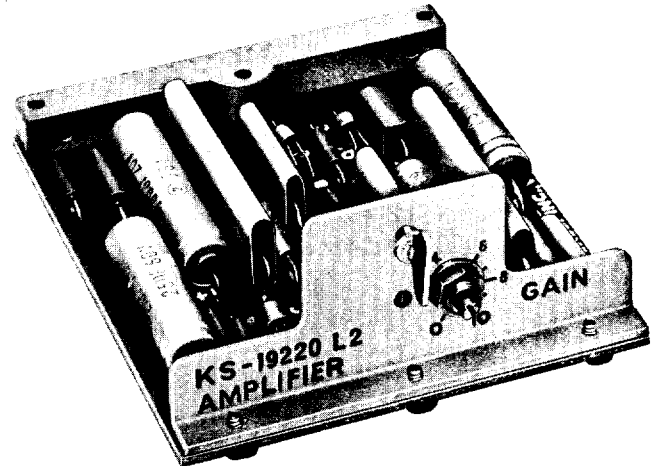

Fig. 1 — KS-19220, List 2 Amplifier
1.02 The KS-19220, List 2 amplifier (see Fig. 1) is a plug-in type, 2-stage, transistorized, adjustable gain amplifier designed to provide amplification of low-level voice-frequency signals. The amplifier has two high-impedance inputs: (a) a low-level input for operating from a magnetic head, a low-level microphone, or equivalent source, and (b) an interstage input for operation through an external transformer from a recording source. The amplifier is designed to operate into loads of 1600 ohms or higher, and the output circuit may be connected to have an internal impedance of 1600 ohms or a low impedance (approximately 250 ohms).
**3.01** The KS-19220, L2 amplifier (see Fig. 1) is a 2-stage transistor amplifier. It consists of circuit components mounted on a printed circuit board with the amplifier circuits terminated in a KS-16345, L1 connector plug. This arrangement enables the amplifier to be plugged into various amplifier assemblies equipped with a mating connector jack (KS-16345, L2).